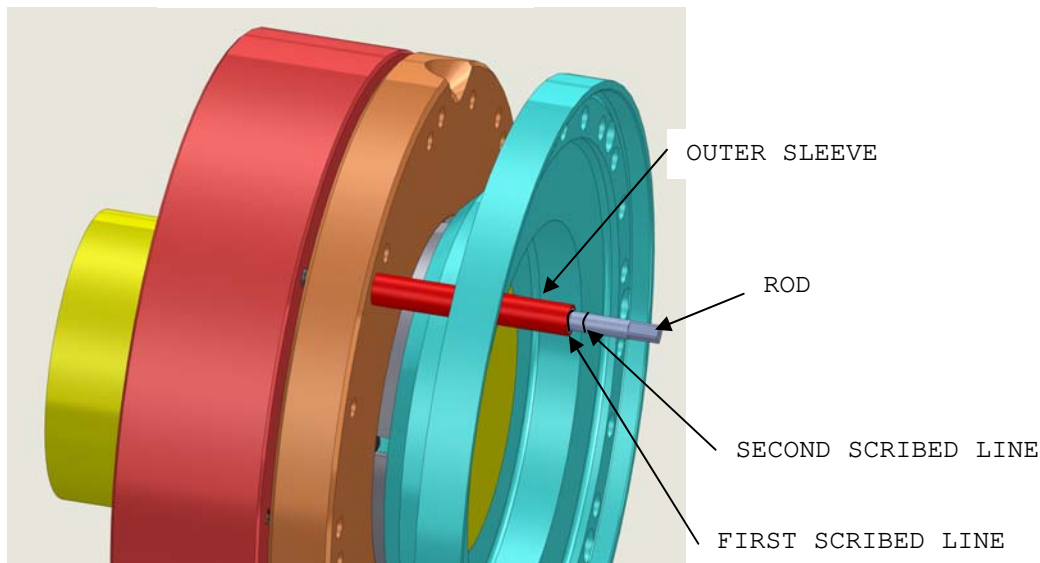

**Figure 4**
**Caution:** Possible equipment damage. Do not put excessive torque on the hydraulic port adapter. Do not pull on hydraulic port adapter (See Figure 4).
2.4.4 Thread the Hydraulic Port Adapter fitting ( Riverhawk PN 2001177) into one of the hydraulic ports on the HTC as shown in Figure 4.
5.2 Install the hydraulic adapter in one port as in Figure 4.